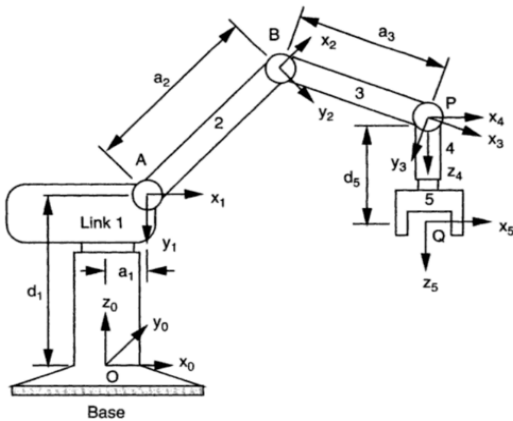

FIG. 1
- Obtain the direct and inverse kinematic analysis of SCORBOT robot shown in fig.1. (12 M)